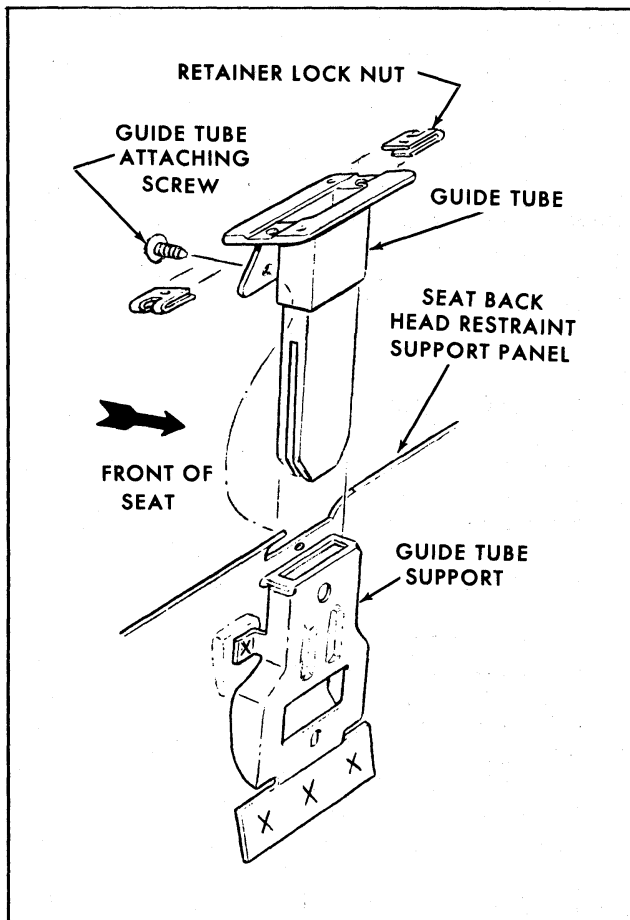

Fig. 9-57-Head Restraint Guide Tube Typical of All Conventional Seats
3. Remove screw securing guide tube and slide guide tube out of support (Fig. 9-57).